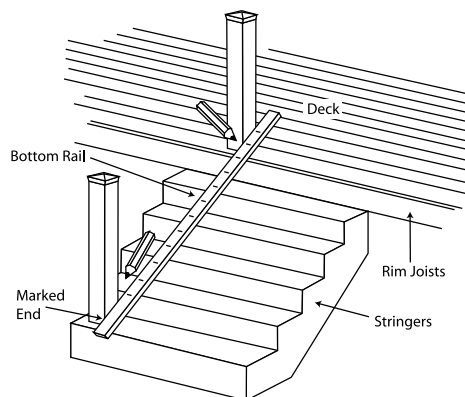

Figure 27
3. Lay bottom rail on stair with marked end at lower post. Center the rail between the posts so that the distance from the post to the first routed hole is equal on both ends. (Fig. 27).